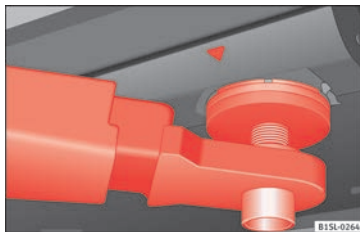
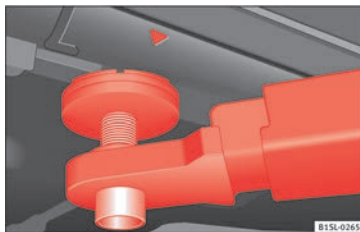

Fig. 159 Front jacking points for raising vehicle with lifting platform or jack
Fig. 160 Rear jacking points for raising vehicle with lifting platform or jack
Always use the jacking points indicated in the figures » Fig. 159 and » Fig. 160 when raising the vehicle. If the vehicle is not lifted at these points, it could be seriously damaged » ⚠ or lead to serious injury » ⚠.
- Only use the jacking points indicated in the figures » Fig. 159 and » Fig. 160 when raising the vehicle. If the vehicle is not lifted at the indicated points, it may fall from the platform while the engine or gearbox is being dismantled, for example.